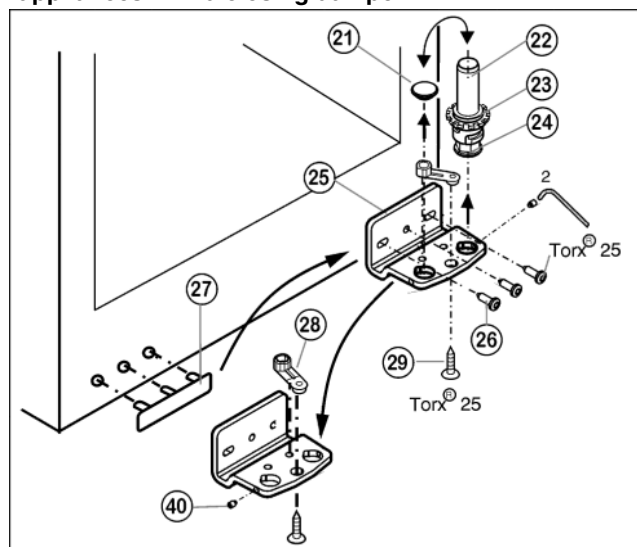
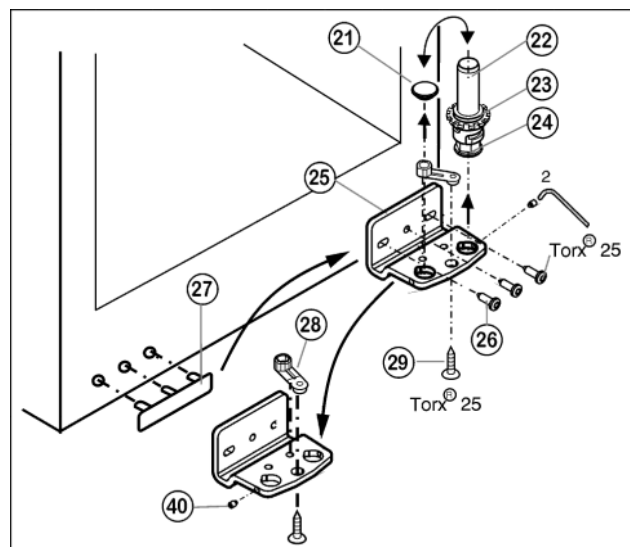

Fig. 7*
Fig. 8*
- Using the accompanying Allen key, unscrew the threaded pin Fig. 7 Fig. 7 Fig. 7 Fig. 7 Fig. 7 (40) by about 1 turn.
- Turn and lift out the bearing pin Fig. 7 Fig. 7 Fig. 7 Fig. 7 Fig. 7 (22) together with washer Fig. 7 Fig. 7 Fig. 7 Fig. 7 Fig. 7 (23) and adjustable-height foot Fig. 7 Fig. 7 Fig. 7 Fig. 7 Fig. 7 (24).
- Lift off the stopper Fig. 7 Fig. 7 Fig. 7 Fig. 7 Fig. 7 (21).
- Unscrew the turn hinge Fig. 7 Fig. 7 Fig. 7 Fig. 7 Fig. 7 (25).
- Fully unscrew the threaded pin Fig. 7 Fig. 7 Fig. 7 Fig. 7 Fig. 7 (40) and screw it in on the opposite side, at the turn hinge, until it is flush outside with the turn hinge.
- Unscrew the bearing element Fig. 7 Fig. 8 (28), turn it through 180° and screw it firmly back into place.
- Unscrew storage section Fig. 7 Fig. 8 (28) and fit it to the opposing locating bore in the mounting block, then tighten it down.
- Re-insert the stopper Fig. 7 Fig. 7 Fig. 7 Fig. 7 Fig. 7 (21) into the other hole.
- Carefully lift off the cover on the handle side Fig. 7 Fig. 7 Fig. 7 Fig. 7 Fig. 7 (27) and transfer it to the opposite side.
- Screw the turn hinge Fig. 7 Fig. 7 Fig. 7 Fig. 7 Fig. 7 (25) firmly into place on the new hinge side, possibly using a cordless screwdriver (with 4 Nm).
- Re-insert the bearing pin Fig. 7 Fig. 7 Fig. 7 Fig. 7 Fig. 7 (22) together with washer and adjustable-height foot.
- Tighten the threaded pin Fig. 7 Fig. 7 Fig. 7 Fig. 7 Fig. 7 (40).
- ▶ Place the door from above onto the lower bearing pin Fig. 7 Fig. 7 Fig. 7 (22).
- ▶ Align the door to the appliance housing by way of the two oblong holes in the bottom turn hinge Fig. 7 Fig. 7 Fig. 7 (25). To do so, unscrew the middle screw.